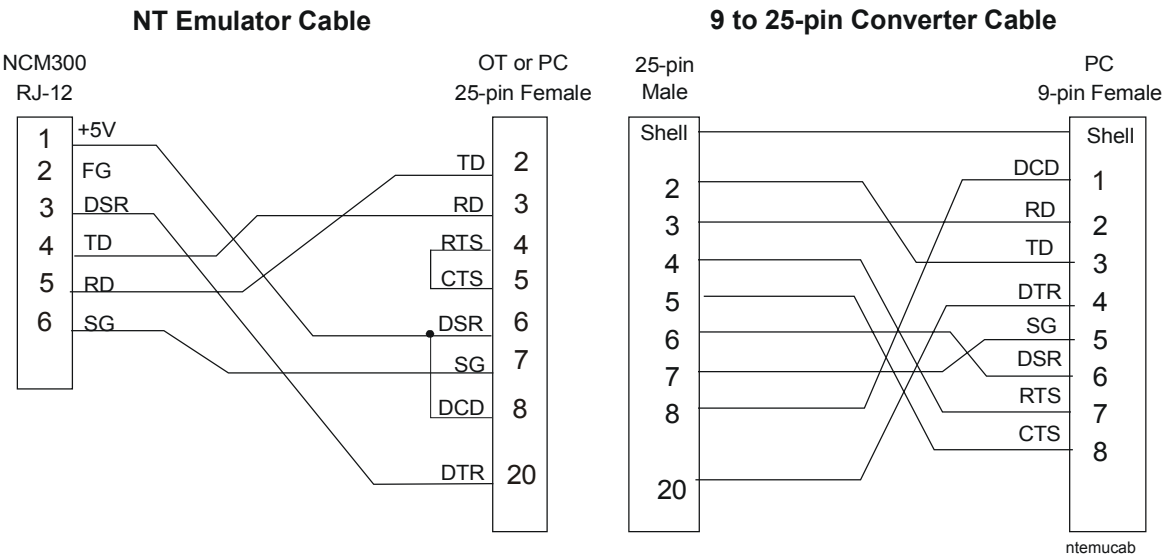
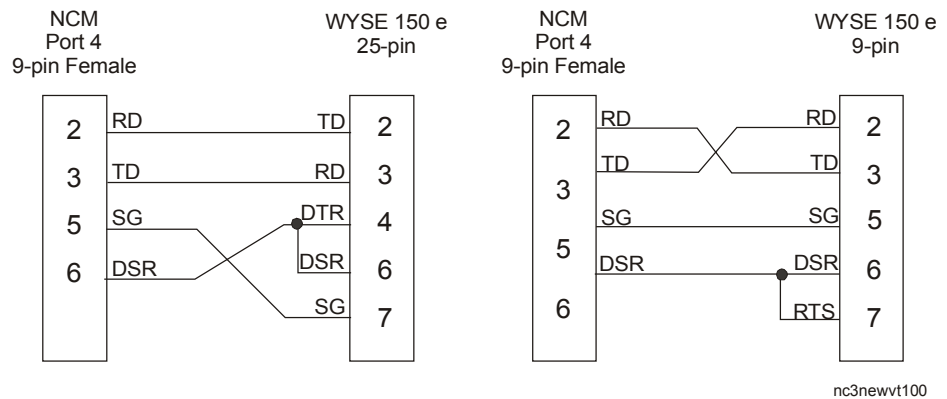
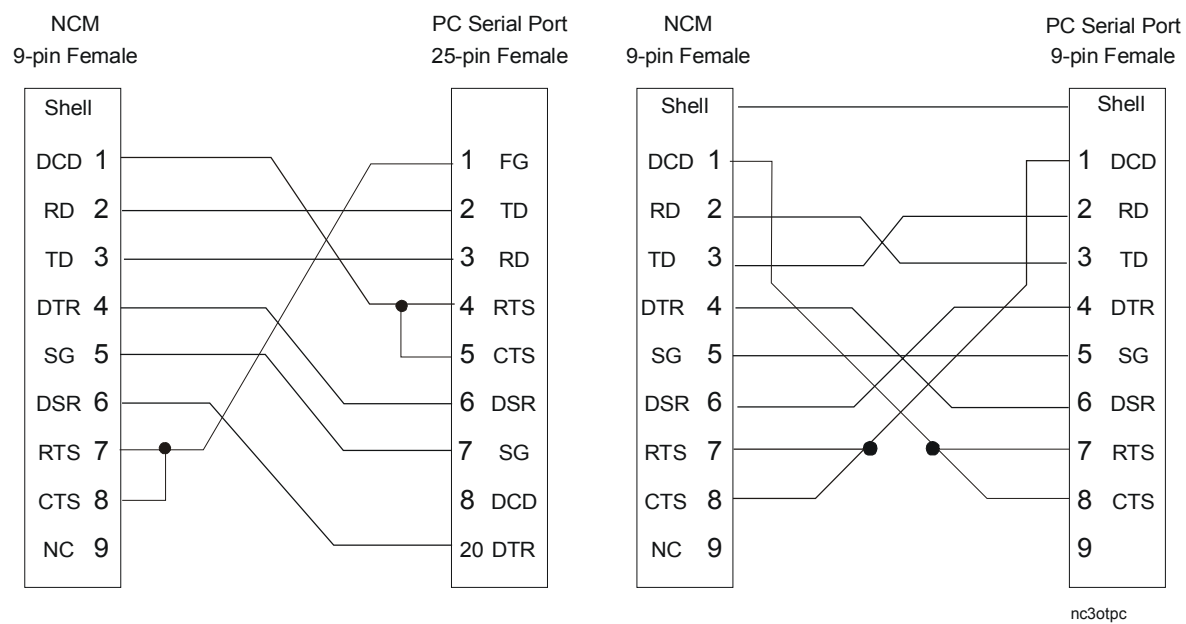

Figure 14: NT Emulator Cable for Connecting NT Emulator or OT to RJ-12 Connector (Port 4)
Figure 16: RS-232 (Port 2 or Port 4) 9-pin Connection to Operator Terminal (VT100 Terminal - VT220)
Figure 17: RS-232 (Port 2 or Port 4) 9-pin Connections to Operator Terminal (PC)
Port 4 is composed of two connections (RJ-12 and DB9) leading to the same circuit. Only one connection can be occupied at one time. The RJ-12 connector, a 6-pin telephone jack, supports Transmit, Receive, and Data Set Ready lines. This connection accepts **either** the NT cable for connection to the NT or the NT Emulator cable for connection to the NT Emulator or Operator Terminal (OT). The RJ-12 port does not support the Zone Bus Terminal. Figure 14 shows the NT Emulator cable for connecting the NT Emulator or OT to the RJ-12 connector (Port 4). (The 9 to 25-pin converter cable is necessary if the PC has a 9-pin serial port.)
- Port 2 (RS-232), see Figure 16 and Figure 17
- Port 4 (RJ-12 connector via an NT Emulator cable), see Figure 14
- Port 4 (RS-232), see Figure 16 and Figure 17
Figure 14 shows how to connect the OT via the RJ-12 connector of Port 4 using the NT Emulator Cable. Figure 16 shows how to connect the Operator Terminal (VT220) from the 9-pin connection of Port 2 or 4. (This connection requires a DB9 Female end for connection to the VT220.) Figure 17 shows how to connect the Operator Terminal from the 9-pin connection of Port 2 or 4 to either the 25-pin serial port or 9-pin serial port of the PC or the VT100.